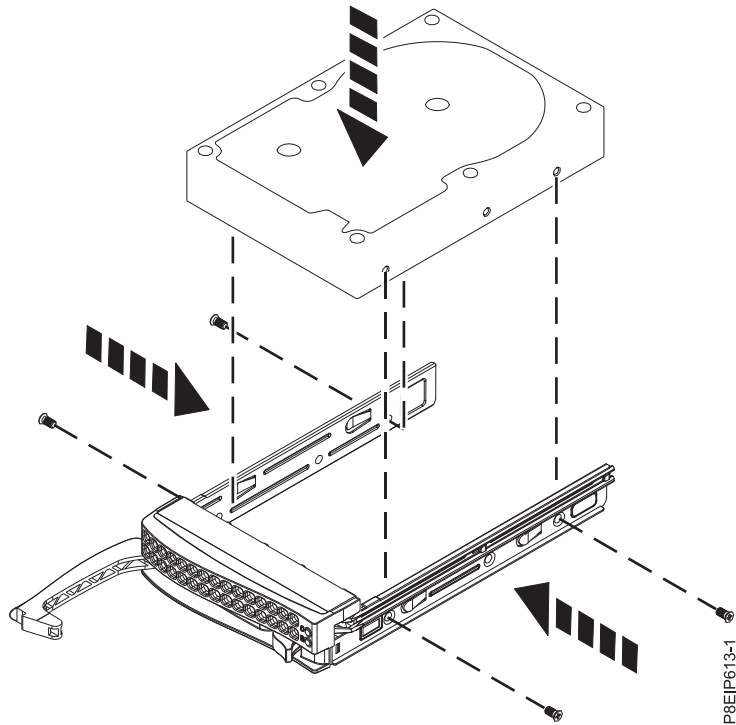

Figure 5. Mounting the 3.5-inch drive in the tray
- A 3.5-inch drive fills the tray, as shown in Figure 5 on page 7. Fasten the drive to the sides of the tray with four screws (two screws on each side).